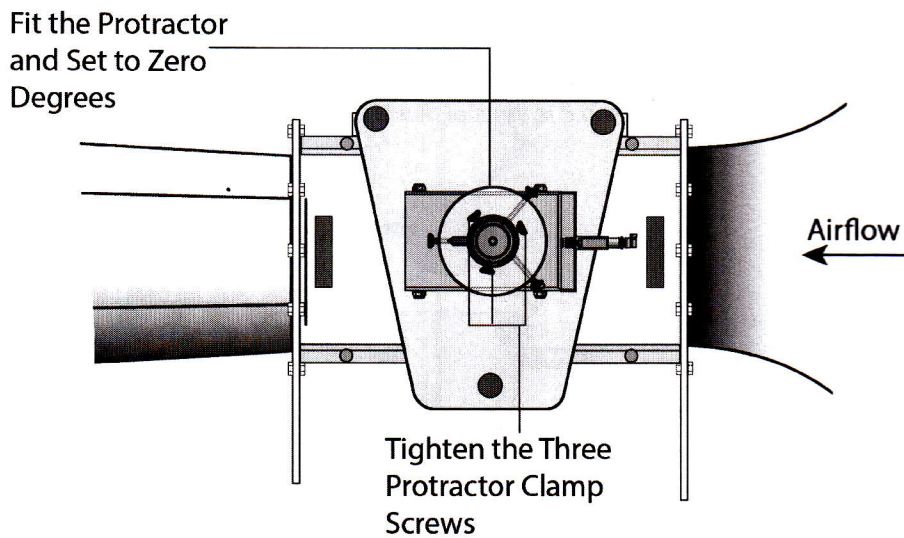

Figure 9 Fit the Protractor and Set to Zero Degrees.
8. Fit the protractor to the model shaft and set it to 0 degrees. Tighten the protractor clamp screws (see Figure 9). The protractor is supplied with the AF1300 wind tunnel.